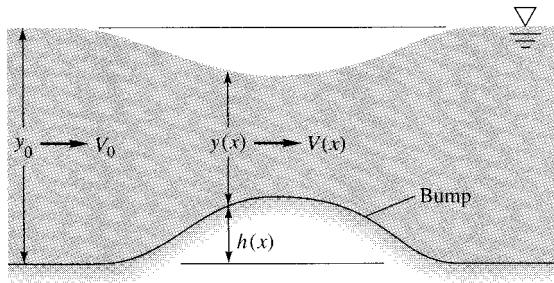

Fig. P10.62
**10.62** Consider the flow in a wide channel over a bump, as in Fig. P10.62. One can estimate the water-depth change or *transition* with frictionless flow. Use continuity and the Bernoulli equation to show that
Is the drawdown of the water surface realistic in Fig. P10.62? Explain under what conditions the surface might rise above its upstream position  $y_0$ .
**10.63** In Fig. P10.62, let  $V_o = 1 \text{ m/s}$  and  $y_o = 1 \text{ m}$ . If the maximum bump height is 15 cm, estimate (a) the Froude number over the top of the bump; and (b) the maximum depression in the water surface.
**10.64** In Fig. P10.62, let  $V_o = 1 \text{ m/s}$  and  $y_o = 1 \text{ m}$ . If the flow over the top of the bump is *exactly critical* ( $Fr = 1$ ), determine the bump height  $h_{\max}$ .
**10.65** Program and solve the differential equation of “frictionless flow over a bump,” from Prob. 10.62, for entrance conditions  $V_0 = 1 \text{ m/s}$  and  $y_0 = 1 \text{ m}$ . Let the bump have the convenient shape  $h = 0.5h_{\max}[1 - \cos(2\pi x/L)]$ , which simulates Fig. P10.62. Let  $L = 3 \text{ m}$ , and generate a numerical solution for  $y(x)$  in the bump region  $0 < x < L$ . If you have time for only one case, use  $h_{\max} = 15 \text{ cm}$  (Prob. 10.63), for which the maximum Froude number is 0.425. If more time is available, it is instructive to examine a complete family of surface profiles for  $h_{\max} \approx 1 \text{ cm}$  up to 35 cm (which is the solution of Prob. 10.64).
**10.66** In Fig. P10.62 let  $V_o = 6 \text{ m/s}$  and  $y_o = 1 \text{ m}$ . If the maximum bump height is 35 cm, estimate (a) the Froude number over the top of the bump; and (b) the maximum increase in the water-surface level.
**10.67** In Fig. P10.62 let  $V_o = 5 \text{ m/s}$  and  $y_o = 1 \text{ m}$ . If the flow over the top of the bump is exactly critical ( $Fr = 1$ ), determine the bump height  $h_{\max}$ .